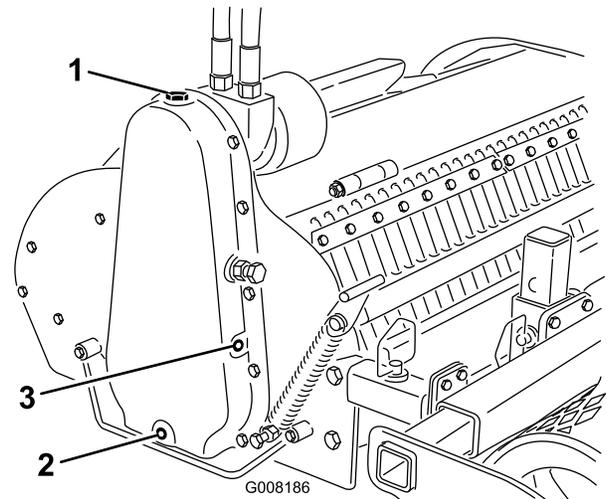

Figure 10
4. Open the oil-fill hole on top of the drive-chain case (Figure 10).
6. Remove the drain plug (Figure 10).
8. Remove the side plug (Figure 10).